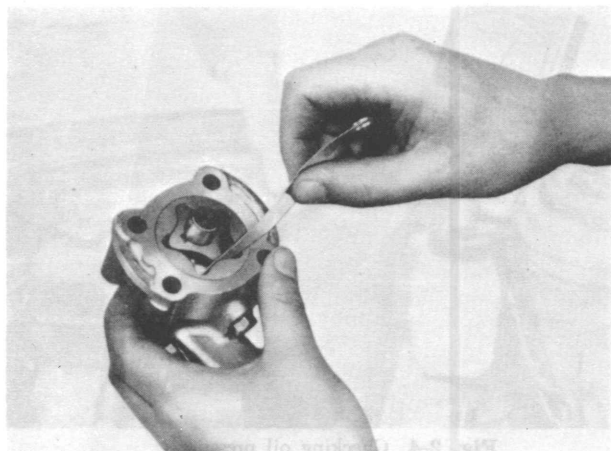

Fig. 2-6 Checking clearance between rotors
1. Use a feeler gauge to check the clearance between the outer rotor and the inner rotor as shown in Fig. 2-6. The standard clearance should be 0.01~0.09 mm. (0.0004~0.0035 in.).